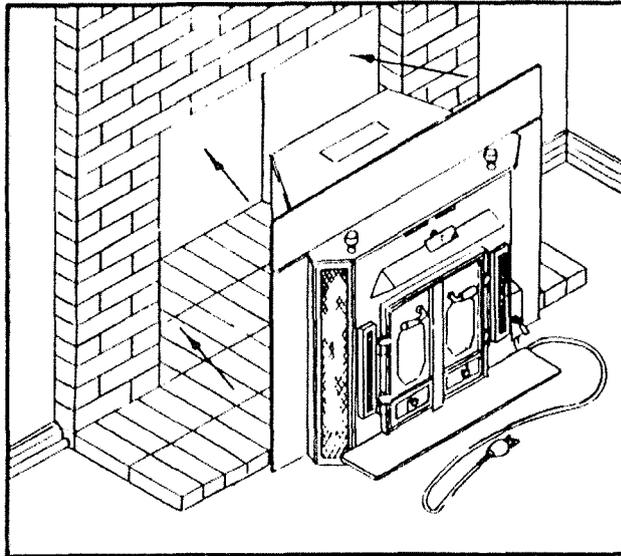

FIGURE 7 CHECKING TRIM PANEL ADJUSTMENT
8. Slide the **BUCK STOVE** back into the fireplace. Check to be sure that the trim panels are properly positioned and lie flat against the front of the fireplace. If one or more of the panels is out of position, slide the stove out and reset by loosening the mounting screws and repositioning in the slot. (See Figure 7)